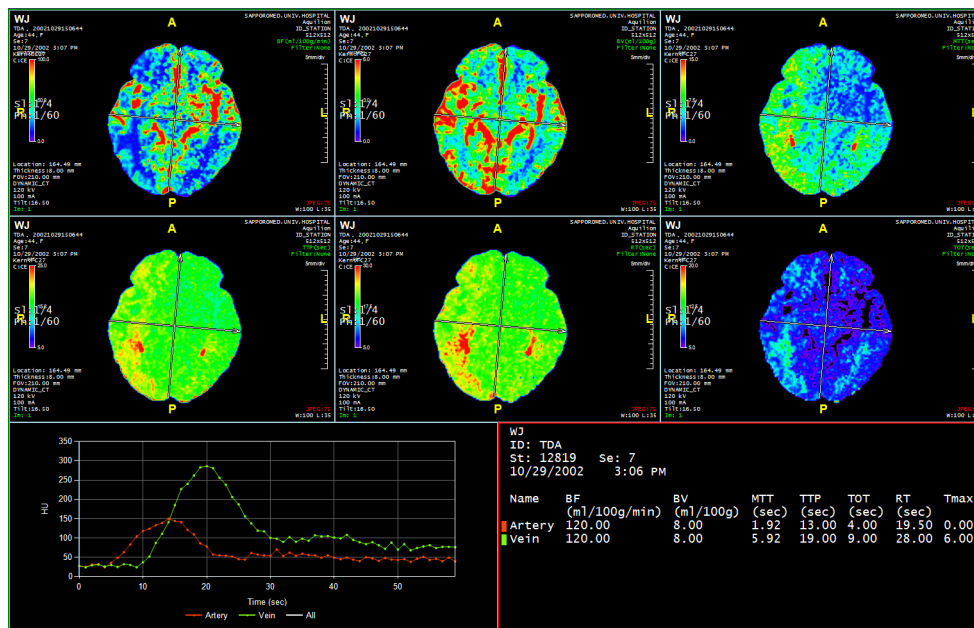

Figure 9-27: Automatic Advanced TDA Results
7. The software calculates the TDA, applies motion correction, and displays the result. (Figure 9-27)